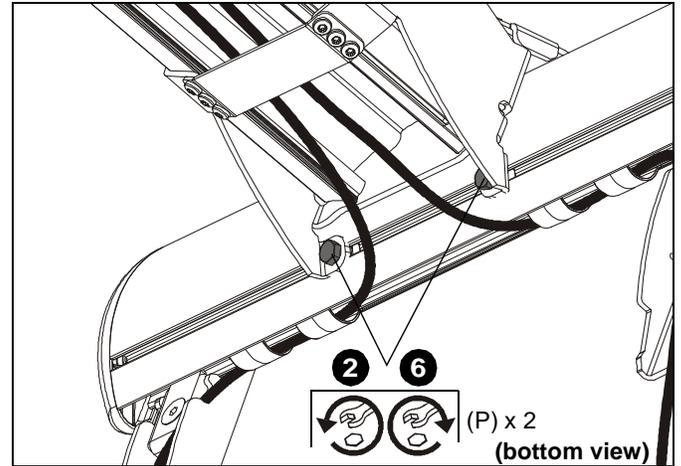

Figure 29
2. Loosen two 1/4-20 x 5/8" hex head cap screws (P) on underside of mounting bracket. (See Figure 29)
6. Tighten two 1/4-20 x 5/8" hex head screws (P) on underside of mounting bracket. (See Figure 29)